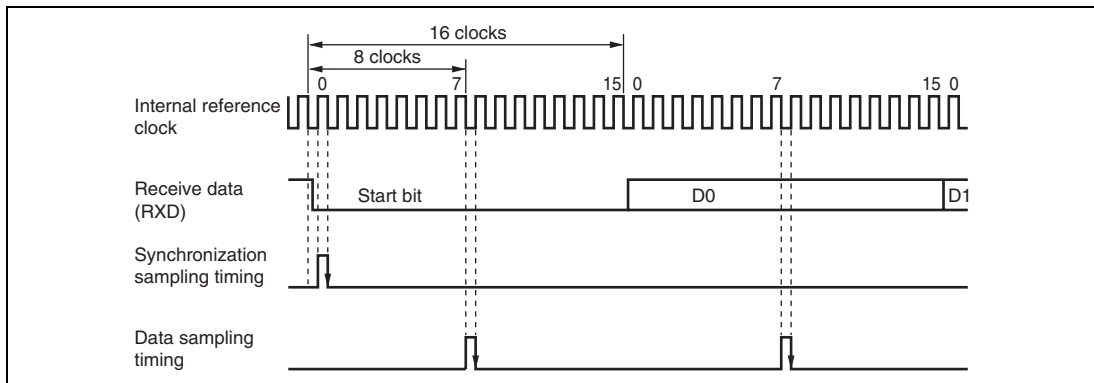

Figure 21.24 Receive Data Sampling Timing in Asynchronous Mode
In asynchronous mode, the SCI3 operates on a reference clock with a frequency of 16 times* the transfer rate. In reception, the SCI3 samples the falling edge of the start bit using the reference clock, and performs internal synchronization. Receive data is latched internally at the rising edge of the 8th* pulse of the reference clock as shown in figure 21.24. Thus, the reception margin in asynchronous mode is given by formula (1) below.